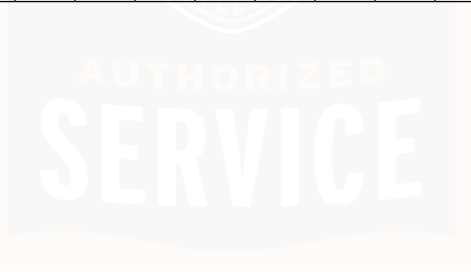

**Figure 14. Hydraulic Preload Adjustment Knob (Left Side Shock Absorber)**
2. See Figure 14. Turn the remote hydraulic adjustment knob (2) on the left shock fully CCW to MIN.